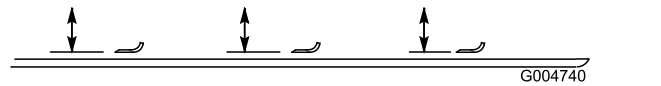

Figure 116
2. Rotate the blade until the ends face forward and backward and measure from the inside of the mower deck to the cutting edge at the front of the blade (Figure 116).